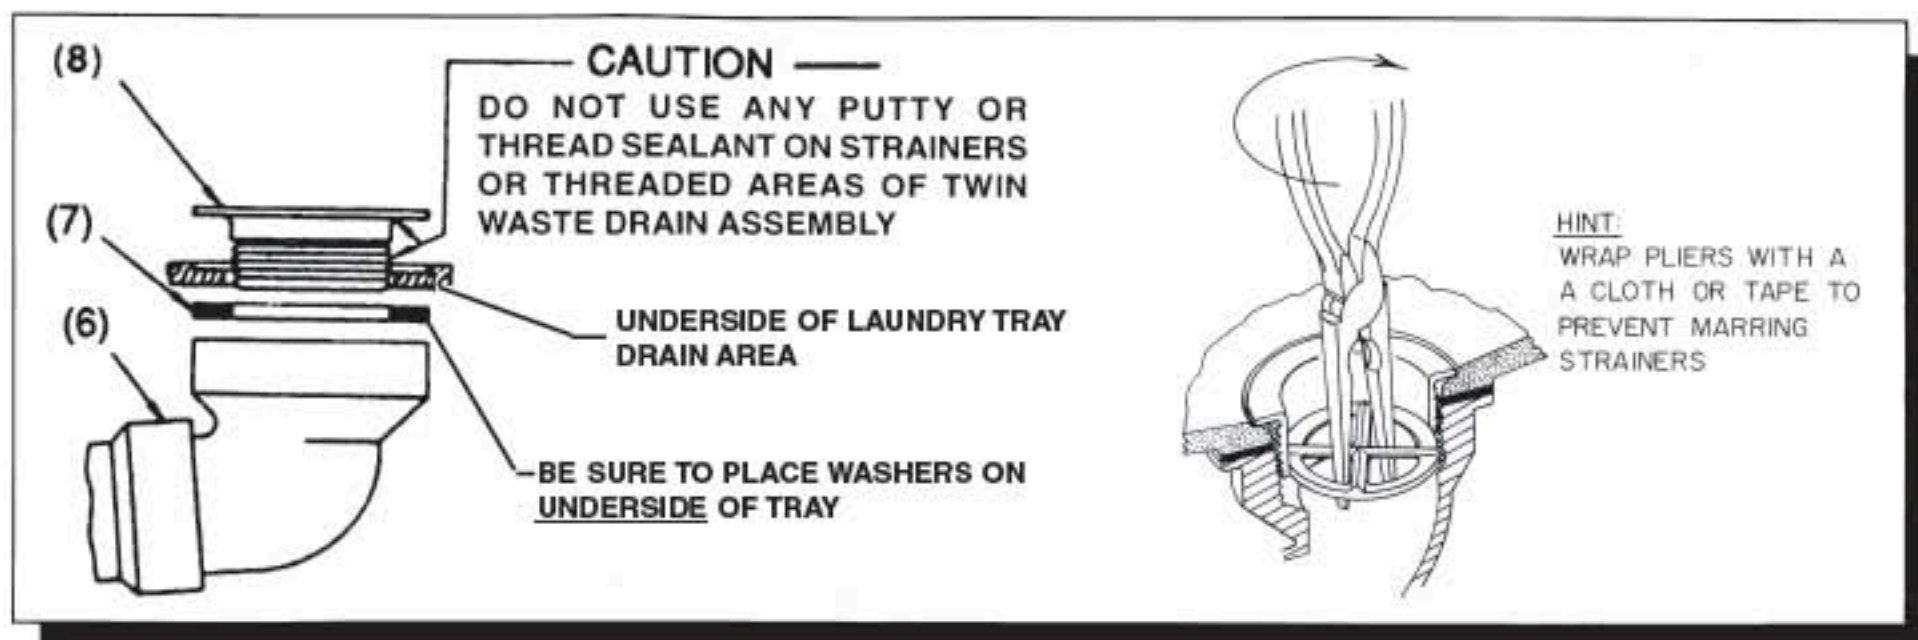

FIGURE 4.
3. Insert Strainers (8) into drain holes of **Laundry Tray**, install Sealing Washers on underside of tray (7) and screw strainers into Twin Waste Drain Assembly (6), tighten in place. See Figure 4. **DO NOT** use any putty or thread sealant on strainers or threaded areas of drain fitting. Teflon sealing tape (not furnished) is acceptable.